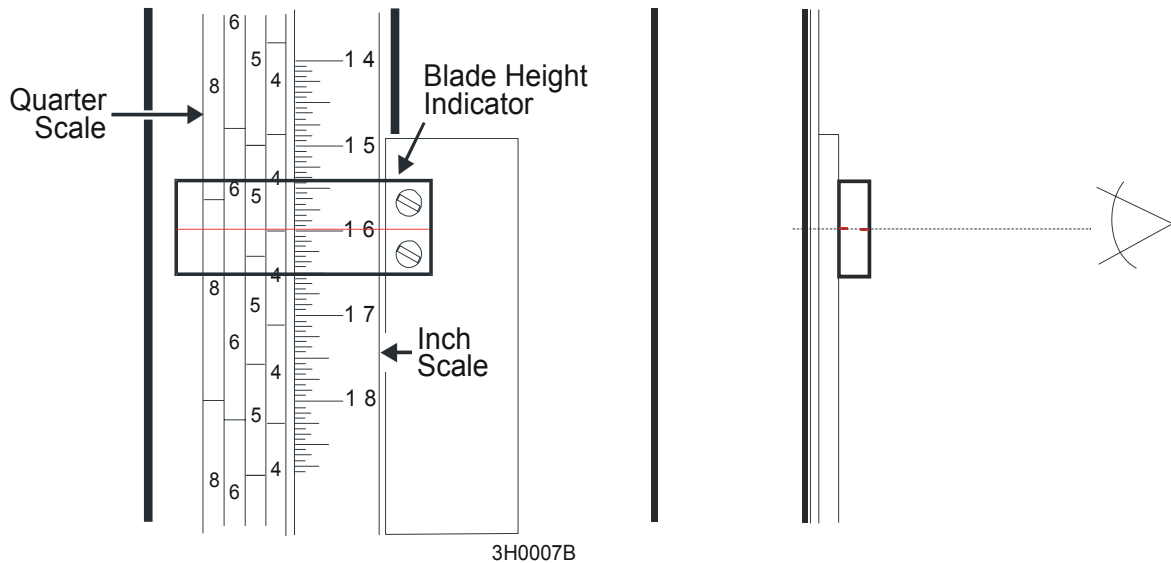

FIG. 2-13
**See Figure 2-13.** The blade height scale is attached to the carriage head frame. It includes: